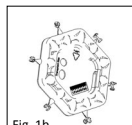

Fig. 1b
■ **Fig. 1b/11** The integral templates on the back of the sizer disk (Fig. 1b) correspond to the minimum size of the graft for lining the tympanic membrane (Fig. 11).